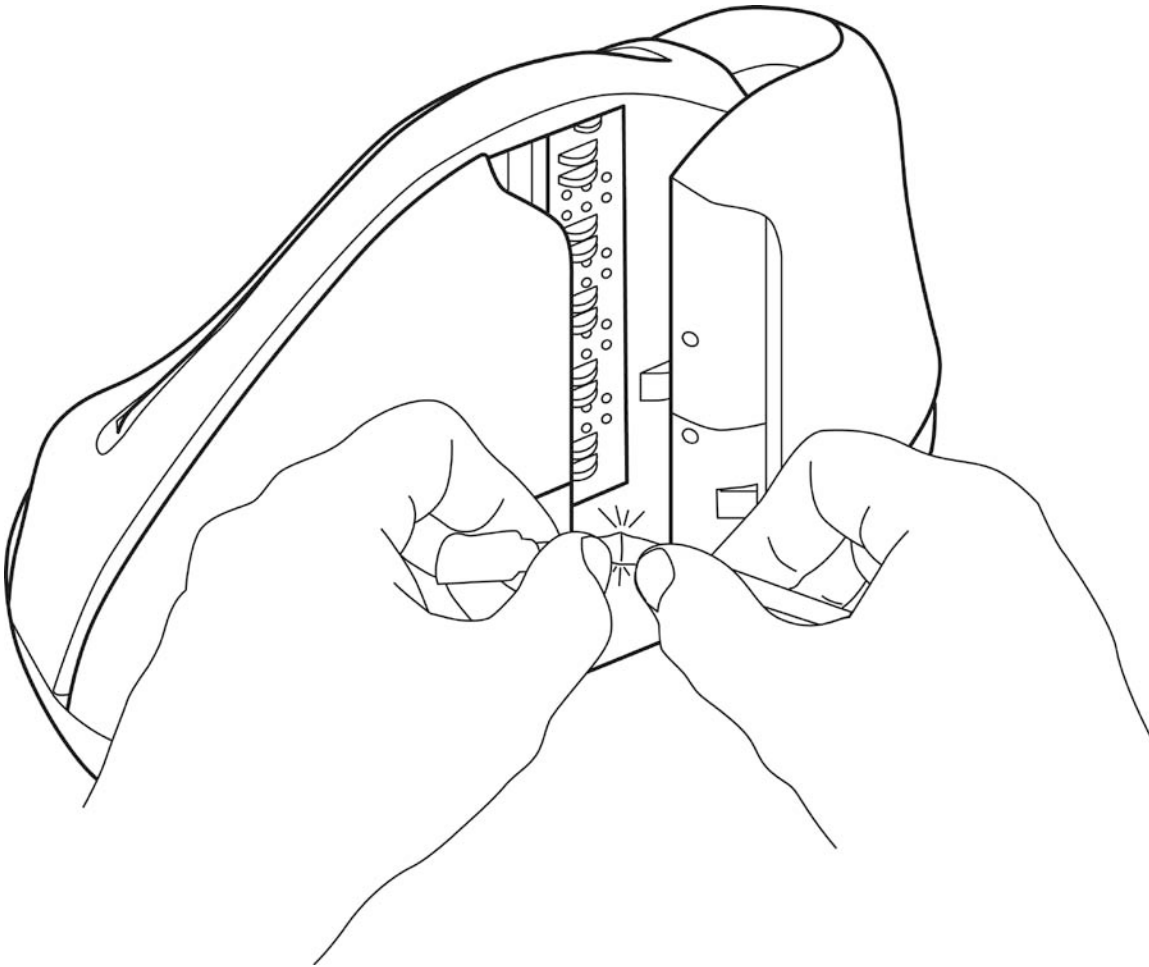

Figure 3-5. Activating the Cleaning Swab
3. To clean the scan bars, use the cleaning swab, shown in Figure 3-5. Activate the swab by bending the plastic tube until you hear a snap.